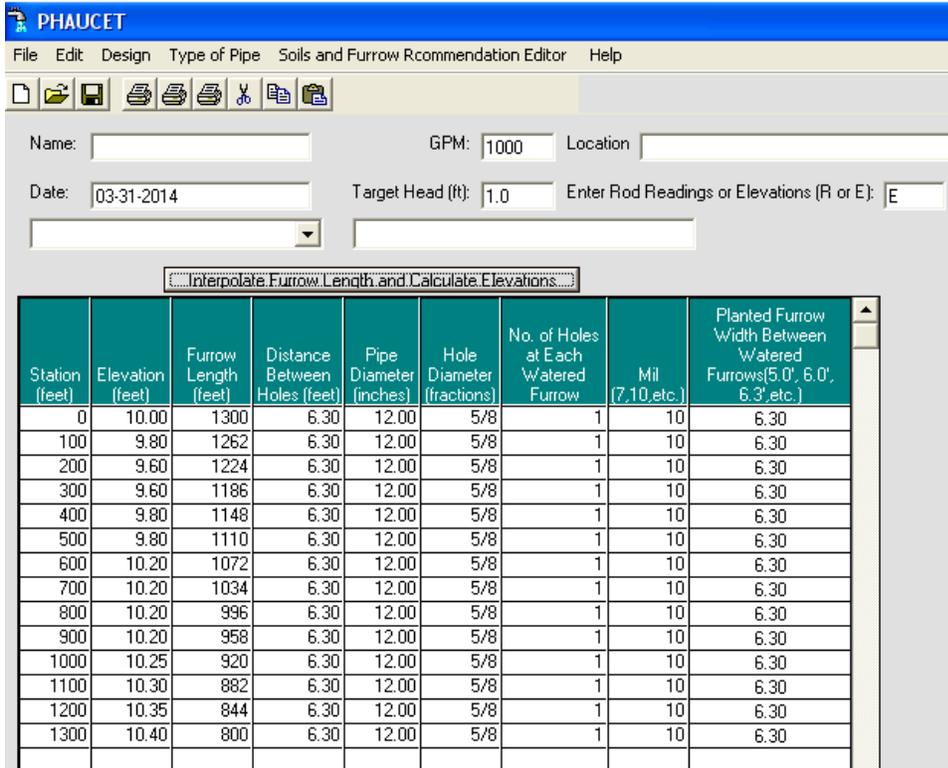

Figure 4.3 – Example 4 Data Input Grid
**STEP 1:** The first objective is to locate the crown profile station that will separate the field into two equal sets. **NOTE:** Head pressure and distribution uniformity are not important at this point. The actual design for both sets will begin when the first objective is completed. The Field Area Calculator can be used to find the area irrigated by any part of a system. To use the Calculator, type the crown profile survey (with furrow lengths) into the Data Input Grid (fig. 4.3).